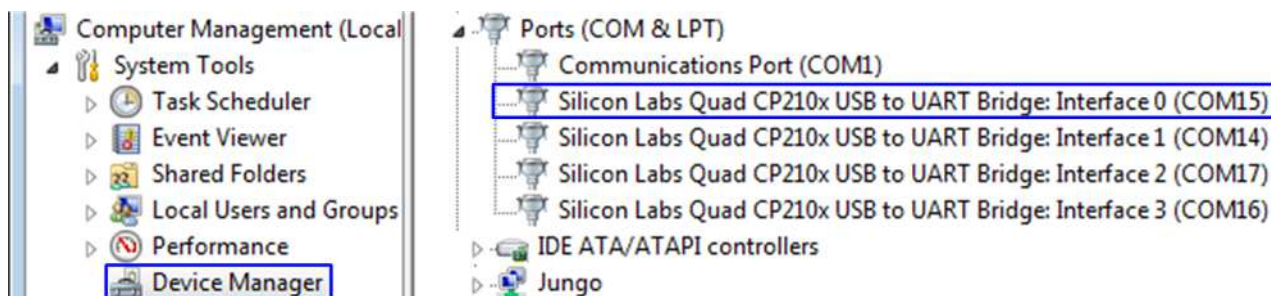

Figure 2-5 Two COM ports from FPGA connection
- Open Serial console. When connecting ZCU102 board to PC, there are four COM ports displayed on Device Manager. Use COM port number of Interface0 (COM15 in Figure 2-5) for Serial console.